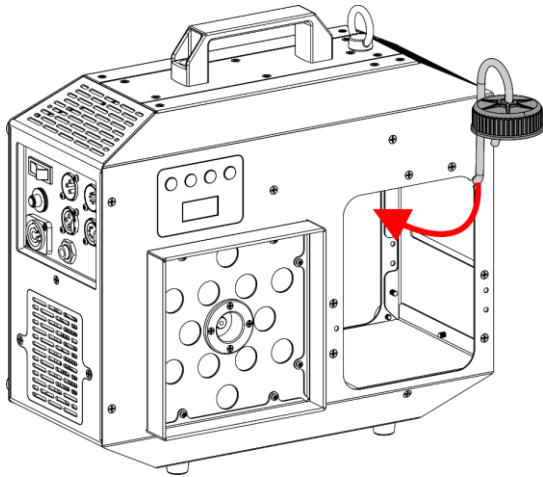

Fig. 16
- 11) Pull the rubber hose out of the hole on the front, as shown in Fig. 16.